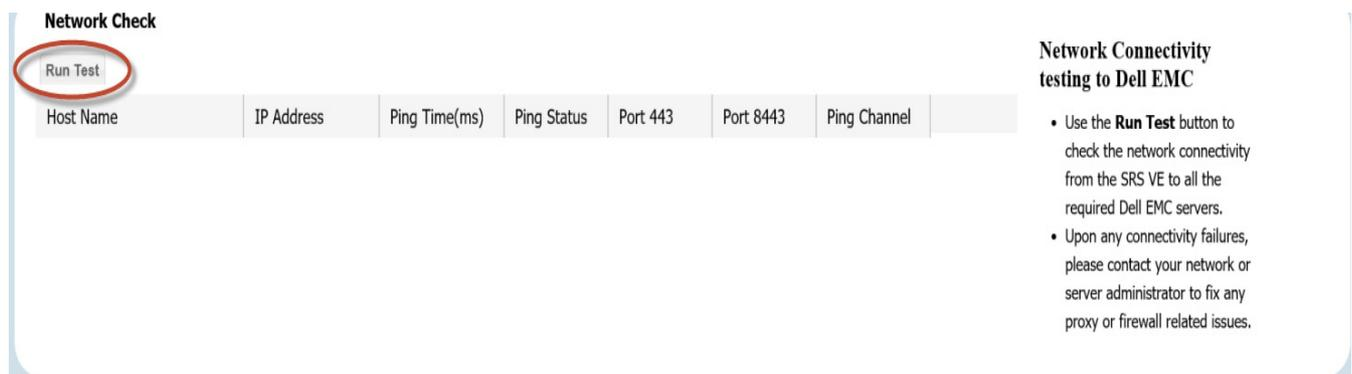

Figure 55 Network Check
1. Click the **Run Test** button, as shown in Figure 55 on page 48.